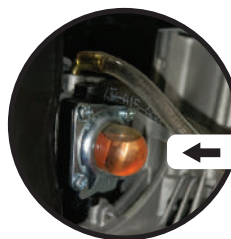

Figure 8
- Press the primer bulb slowly 6 times (See Figure 8 )